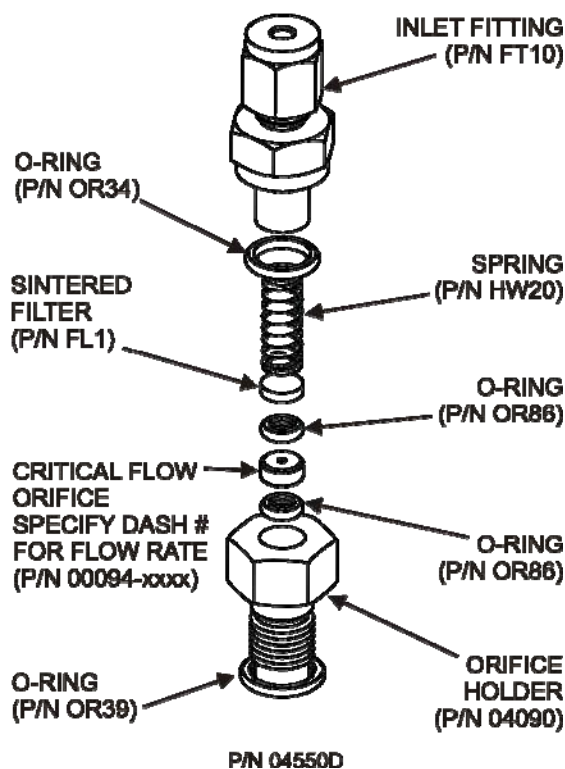

Figure 11-7: Critical Flow Orifice Assembly
- This part holds all components of the critical flow assembly as shown in Figure 11-7.
5. For orifices in the vacuum manifold: the assembly is similar to the one shown in Figure 11-7, except:
9. Reassemble the parts as shown in Figure 11-7.